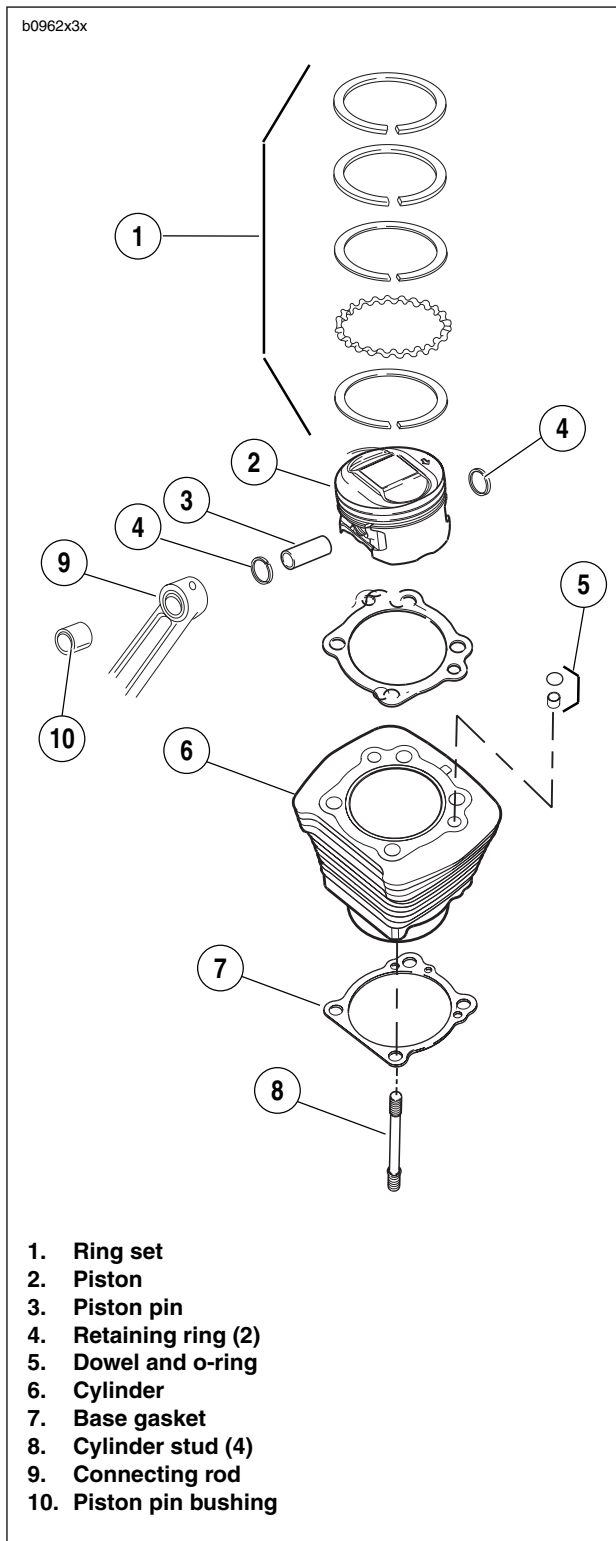

Figure 3-89. Cylinder and Piston
4. See Figure 3-89. Turn engine over until piston of cylinder being removed is at bottom of its stroke.